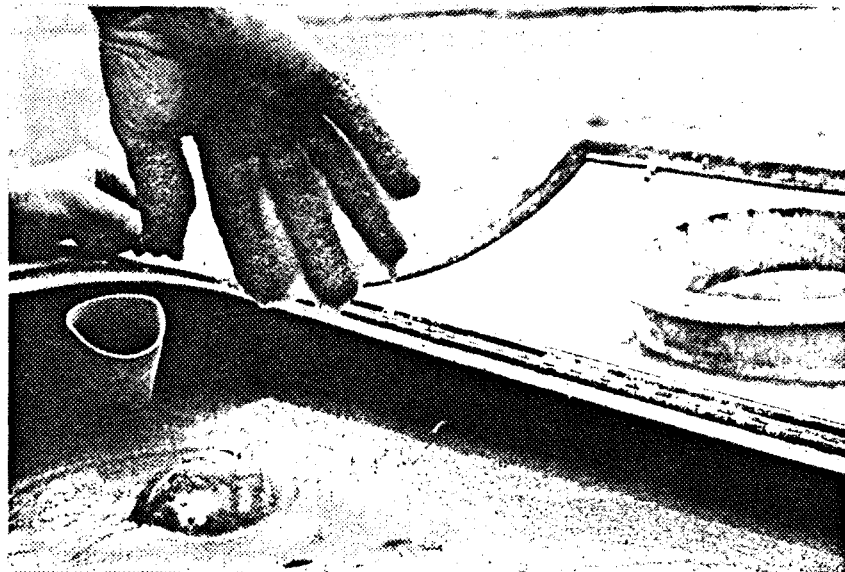

Figure 5. A desirable GELGARD F mixture prepared with $4\frac{1}{2}$ lb./100 gal. water.
1. The amount of GELGARD F powder required for every load of retardant mixture is determined either through a series of field tests or during the early stages of the wildfire operation for each airstrip. The flow meter is set on the hole which produces a desirable mixture with the existing water conditions. An experienced mixmaster can determine the amount of GELGARD F required after the first three loads². Requests by the bird-dog officer or fire-line personnel for either a thinner or thicker mixture may change this application rate. A desirable GELGARD F mixture is shown in Figure 5.